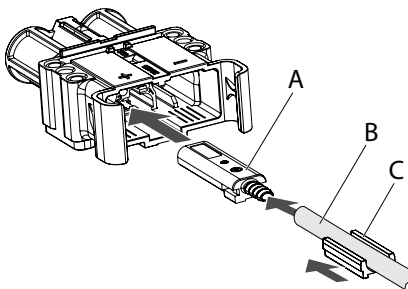

Fig. 45:
1. Push the air hose (*Fig. 45/B*) as far as it will go onto the air tube (*Fig. 45/A*).
4. Push the spacer (*Fig. 45/C*) flush into the socket housing as far as it will go.